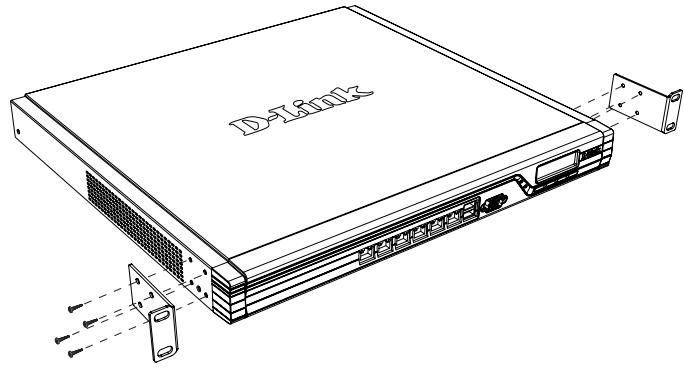

Figure 5. Attaching Rack Mount Brackets
1. Attach the mounting brackets to each side of the chassis as shown in figure 5 and secure them with the provided screws.